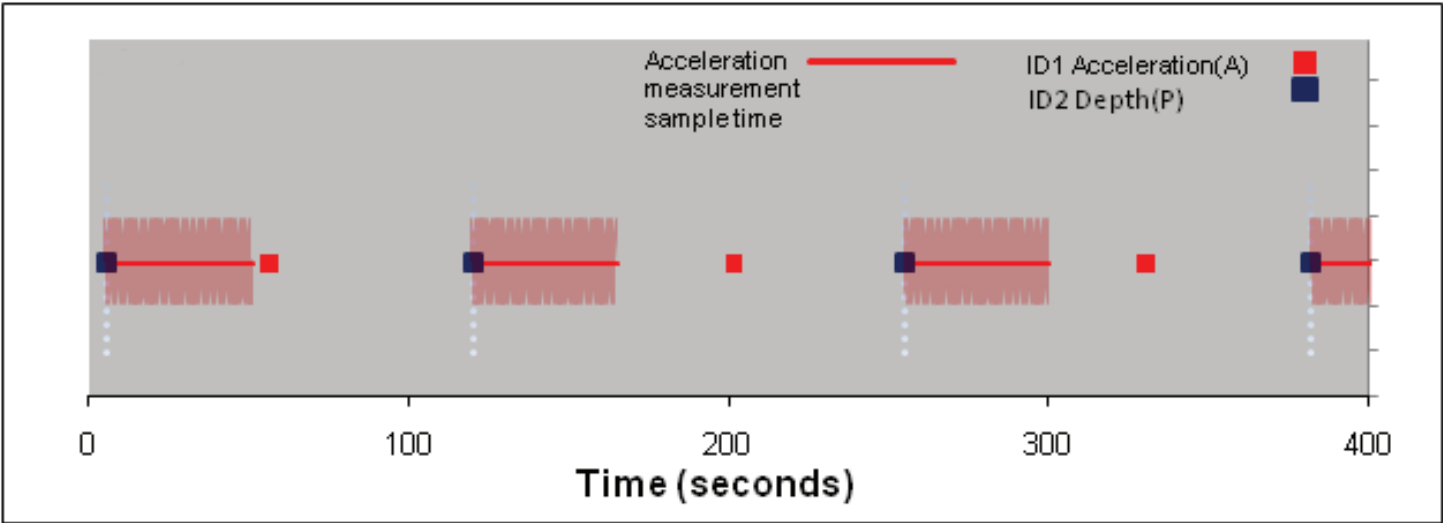

Figure 3: Example of sampling and transmission format
We have provided some programming flexibility in the design of this transmitter owing to the variability in swimming behavior of a wide range of species, benthic to pelagic. The programming parameters are Average Delay (sec) and the size of the acceleration sampling window (T) in seconds. The V9AP coded transmitter functions like all standard VEMCO two-sensor coded transmitters. It has two coded tag IDs one for the depth sensor and one for the accelerometer. The acceleration measurement is sampled over a period T. Figure 3 illustrates the sampling and transmission format. Immediately after the tag transmits an ID and pressure value (blue square), the tag begins the acceleration measurement (red line). After T seconds of measurement, the RMS value of acceleration is computed and stored in memory. Once the tag delay time is complete, the tag transmits the accelerometer tag ID and